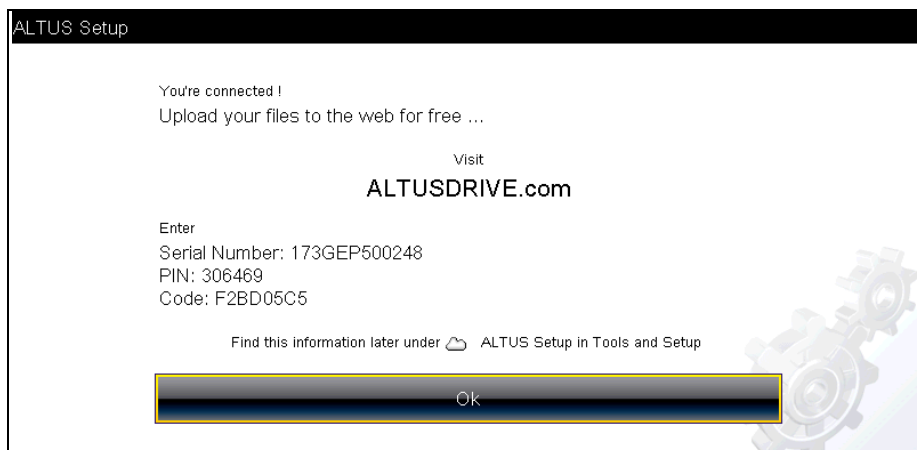
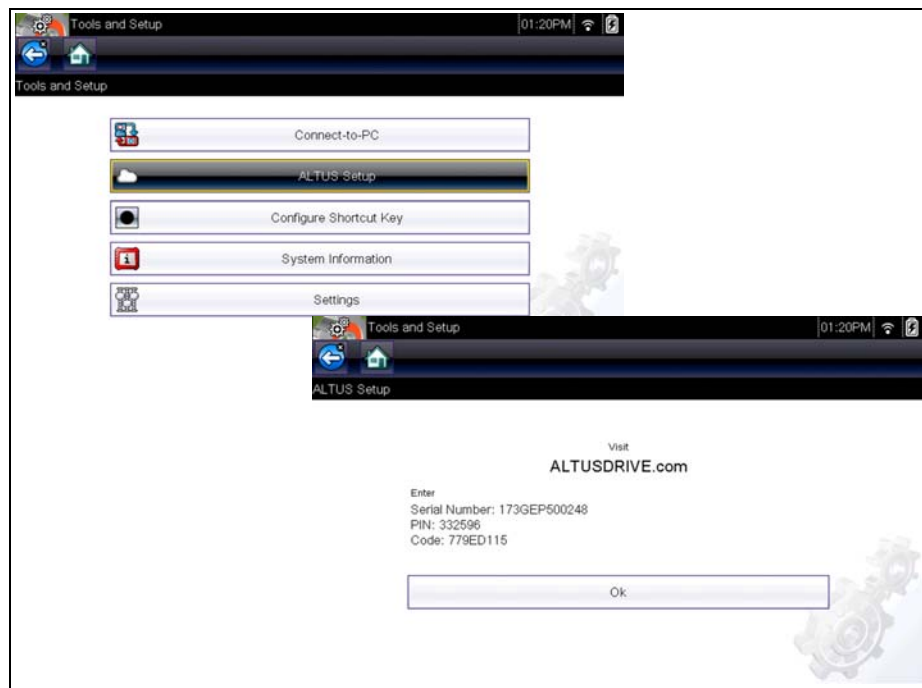

Figure 10-1
Figure 10-2
2. Write down the Serial Number, PIN and Code that are displayed when the device connects to the Wi-Fi network (Figure 10-1), or leave the screen displayed. Registration information can also be found in the Tools menu, see ALTUS Setup Information Screen, on page 80,.
The PIN and Code numbers will change each time you view the ALTUS Setup screens (Figure 10-1 and Figure 10-2). This is normal, any displayed set of PIN and Code numbers may be used to register on ALTUSDRIVE.com.
From the Home screen, selecting **Tools > ALTUS Setup** (Figure 10-2) allows you view the diagnostic tool serial number, PIN and Code needed to register on ALTUSDRIVE.com.
The PIN and Code numbers will change each time you view the ALTUS Setup screens (Figure 10-2 and Figure 10-1). This is normal, any displayed set of PIN and Code numbers may be used to register on ALTUSDRIVE.com.